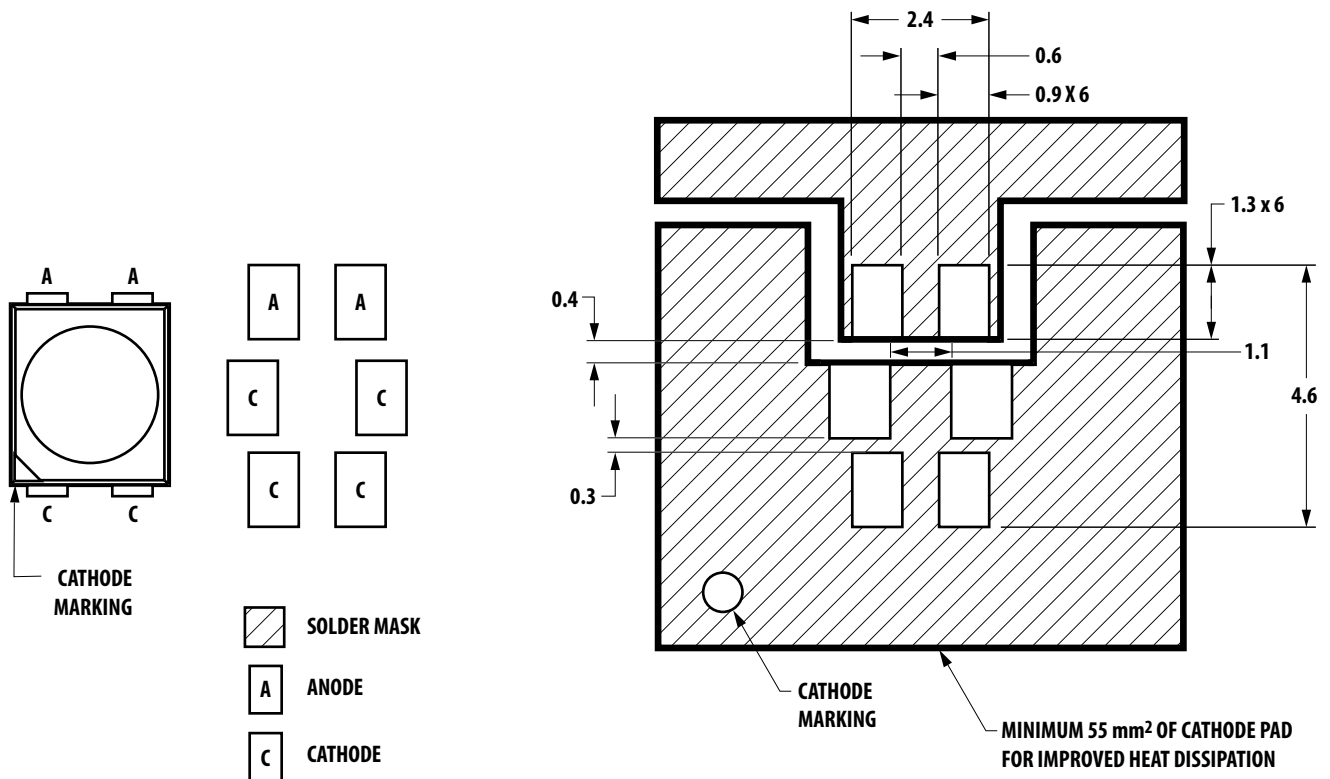

Figure 12. Recommended Soldering Pad Pattern
2. Lead Polarity as shown in Figure 12.